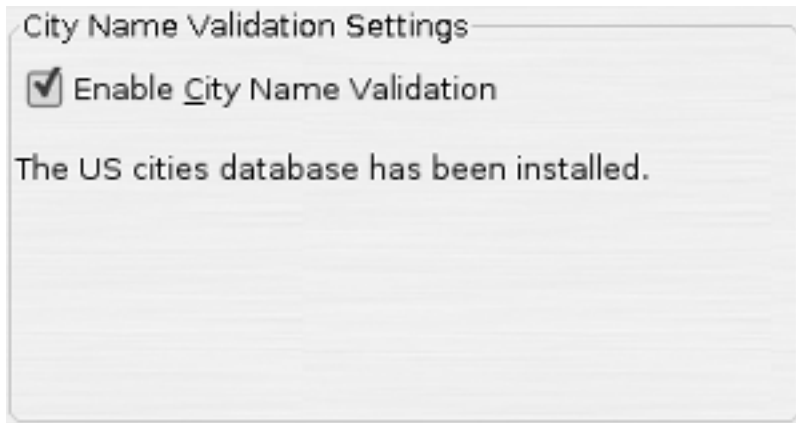

Figure 11.3. City Name Validation Setting
2. Under the "City Name Validation Settings" make sure the checkbox labeled "Enable City Name Validation" is checked to enable city name validation. The checkbox should NOT be checked to disable this feature see Figure 11.3, "City Name Validation Setting".